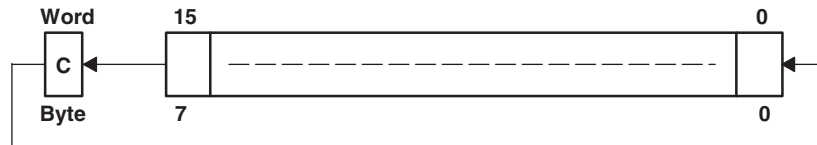

Figure 4-39. Destination Operand—Carry Left Shift
Description	The destination operand is shifted left one position as shown in Figure 4-39. The carry bit (C) is shifted into the LSB, and the MSB is shifted into the carry bit (C).